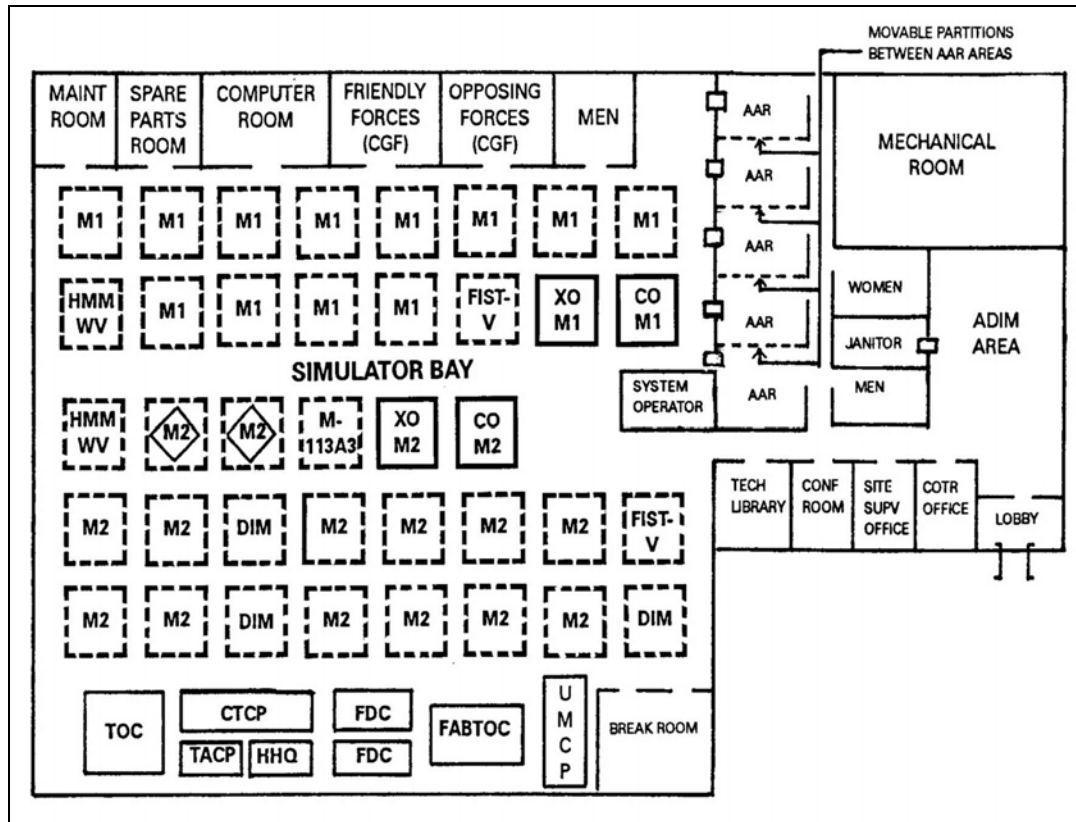

Figure 4-9. Close combat tactical trainer.
d. **Close Combat Tactical Trainer.** The CCTT (Figure 4-9) is a mounted task trainer consisting of a network of individual, computer-driven, combat-vehicle (mounted task) simulators. It trains the M1 Abrams tank, the M2 or M3 Bradley, the high-mobility multipurpose wheeled vehicle (HMMWV), and the fire-support team (FIST) vehicle.
(1) The CCTT's controls duplicate those of the vehicles and functions they simulate. CCTT computers can create a complex illusion of --
(2) The trainer selects collective tasks to train units ranging in size from mounted crews up through battalion task-force soldiers.
(3) The trainer's effectiveness depends heavily on its computer-generated force (CGF) capability. This lets the trainer simulate both friendly and opposing forces that can range in size from squad to regiment.
(4) Although this is a mounted-task trainer, the squad and platoon leaders also control the actions of any passengers, including scouts.